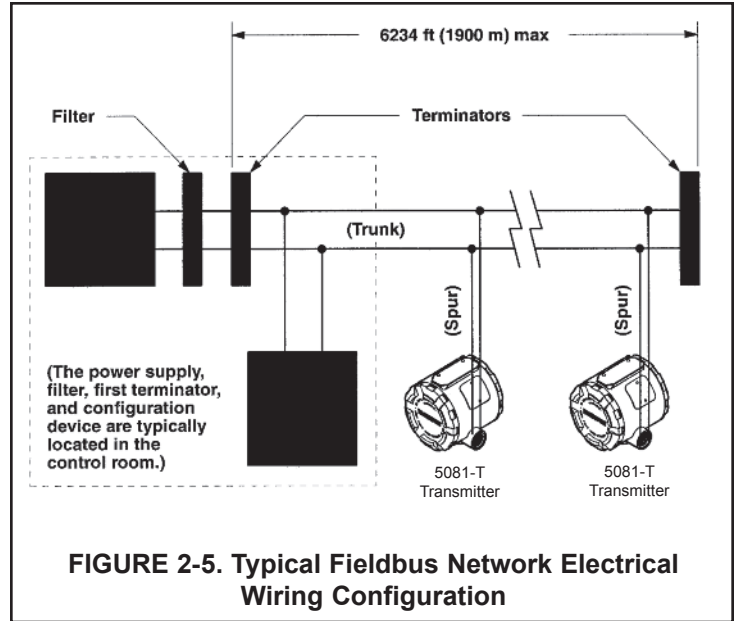
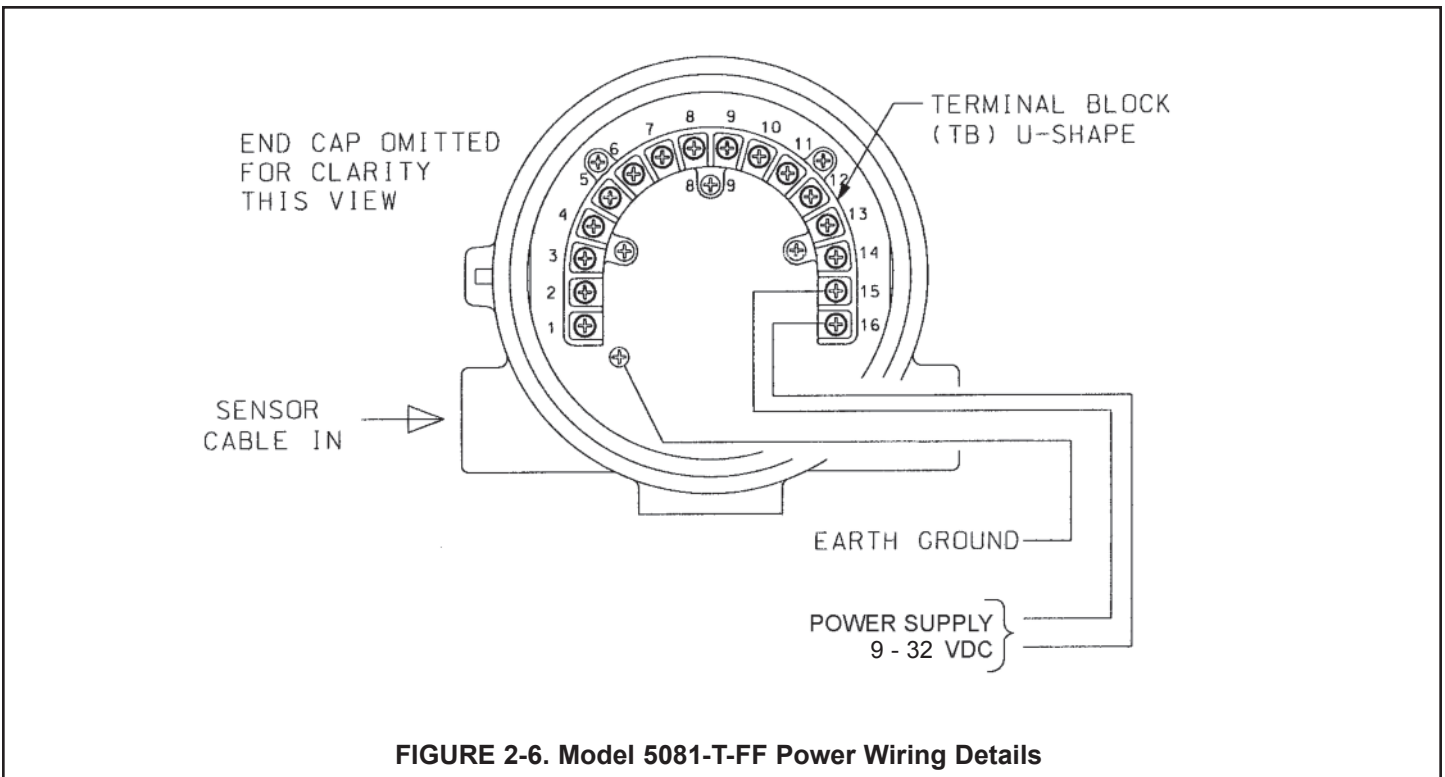

FIGURE 2-5. Typical Fieldbus Network Electrical Wiring Configuration
FIGURE 2-6. Model 5081-T-FF Power Wiring Details
2.5.1 Power Supply Wiring. Refer to Figure 2-5 and Figure 2-6.